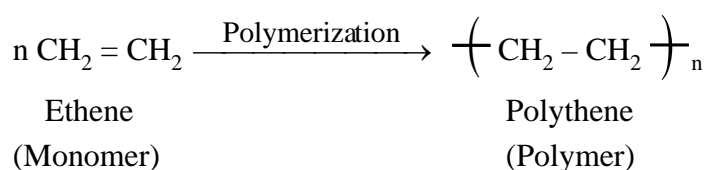

**Fig. 23.1 : Different structures of polymers.**
- (a) **Linear polymers** : In linear polymers the monomers are joined together to form long straight chains of polymers molecules [Fig. 23.1(a)]. The various polymeric chains are then stacked over one another to give a well packed structure resulting with high melting point, high densities and high tensile strength. Examples of linear polymers are high density polythene, nylon, polyester etc.
- (b) **Branched chain polymers** : In these polymers the manomer units not only combine to produce the linear chain called the main chain, but also form branches of different lengths along the main chain [Fig. 23.1(b)]. Due to branching these polymers do not pack well for which they have lower melting points, densities and tensile streangth than that of
- (c) **Cross-linked or three dimensional network polymers :** In these type of polymers the initially formed linear polymer chains are joined together to form a three-dimensional network structure [Fig. 23.1(c)]. Only two cross-links per polymer chain are required to join together all the long chain polymer molecules to form a giant molecule. Because of the presence of cross-links, these polymers are called **cross-linked polymers**, which are usually formed from bifunctional and trifunctional monomers containing strong covalent bonds between various linear polymer chains. Examples are bakelite, melamine etc.